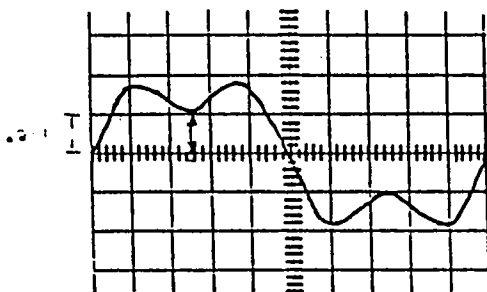

Figure 5-5. PE Read Output 1600 fci
8. Write at 1600 fci (switches 1 and 2 to the right) and turn the PE current pot (second from top, slot 8) clockwise until the read output dip is 0.2 volt, as shown by the arrow in Figure 5-5.
10. Adjust the PE compensation potentiometer (fourth pot from top, slot 8) until the rocking is about equal on the top and bottom as shown in Figure 5-5.
13. Write at 1600 fci and check the waveform at TP1-TP9 (Figure 5-5). Only minor differences should exist from track to track.